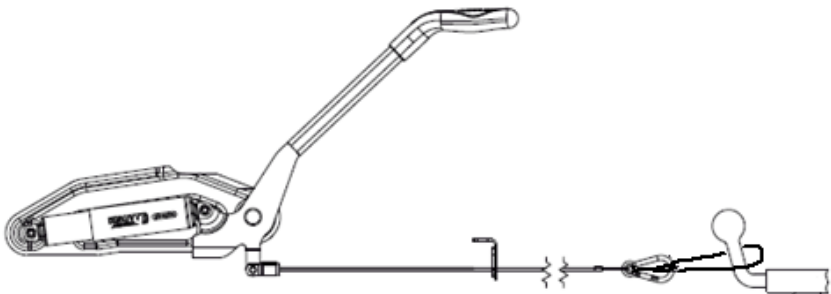

Fig. 2. Attachment of the breakaway cable when the towbar has no hitch.
- The cable can only be attached to the ball of the tow bar (Fig. 2) if the tow bar does not have a hitch. However, in this case there is a high risk of the cable slipping out, resulting in the brake not being applied (Fig. 2).